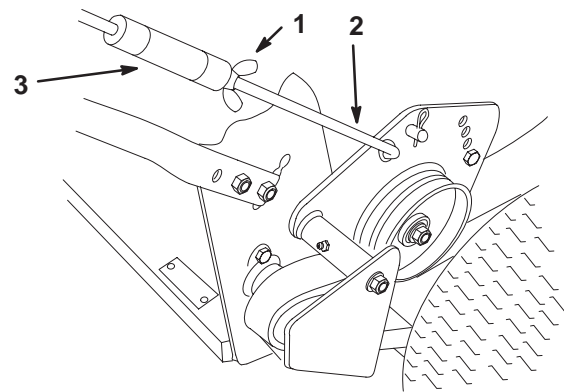

Figure 11
4. Loosen the turn buckle wing nut (Fig. 11).
6. Tighten the wing nut to prevent the turnbuckle from turning (Fig. 11).